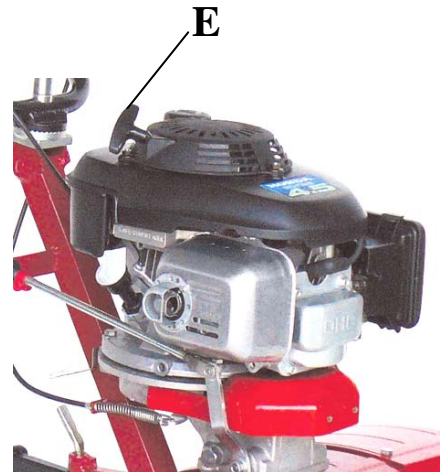

Fig. 9
- Hold the start handle (**fig. 9 part. E**) of the recoil starter with one hand only and pull smoothly until the ratchet gear engages and pull sharply;